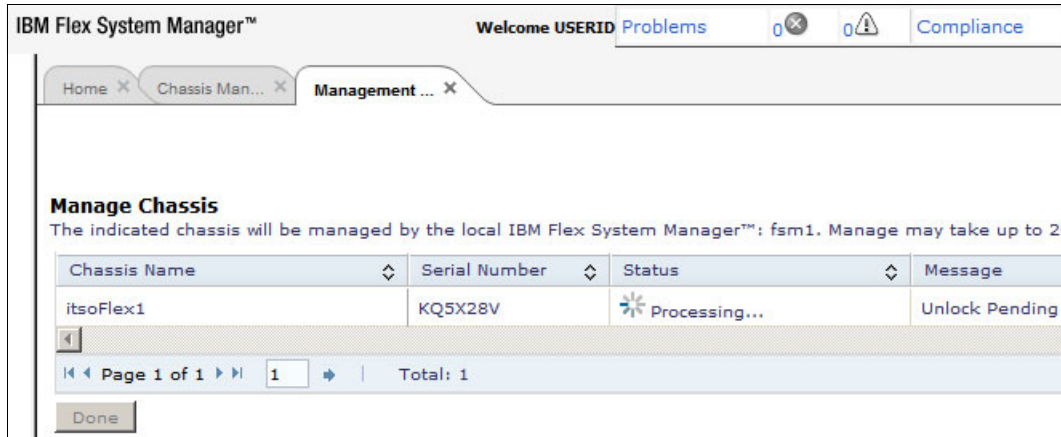

Figure 6-26 FSM manage chassis process
- FSM begins to establish management relationships with the selected chassis as shown in Figure 6-26. In the Message column, FSM displays the current phase of the process.